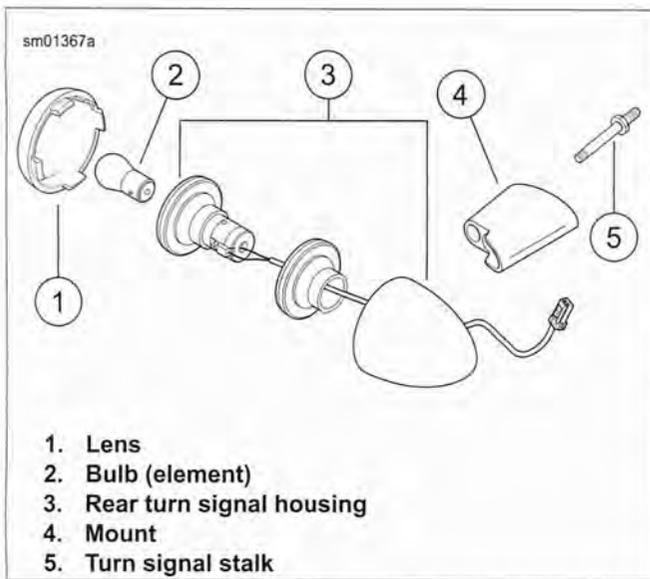

Figure 6-82. Rear Turn Signal Components: XL 883R/L and XL 1200L
3. See Figure 6-82. Install each turn signal housing (3) and mount (4) to rear fender strut cover with turn signal stalk (5). Tighten to 96-156 **in-lbs** (10.9-17.6 Nm).